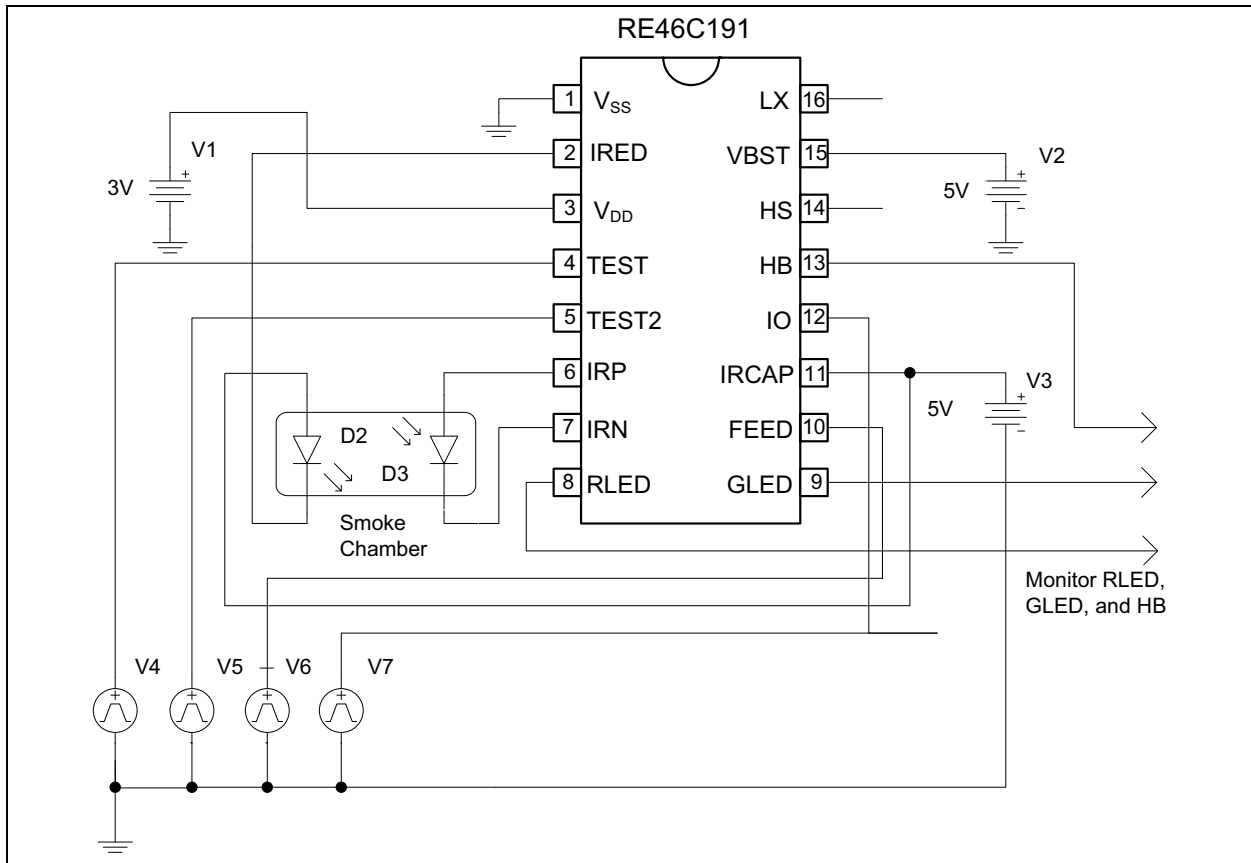
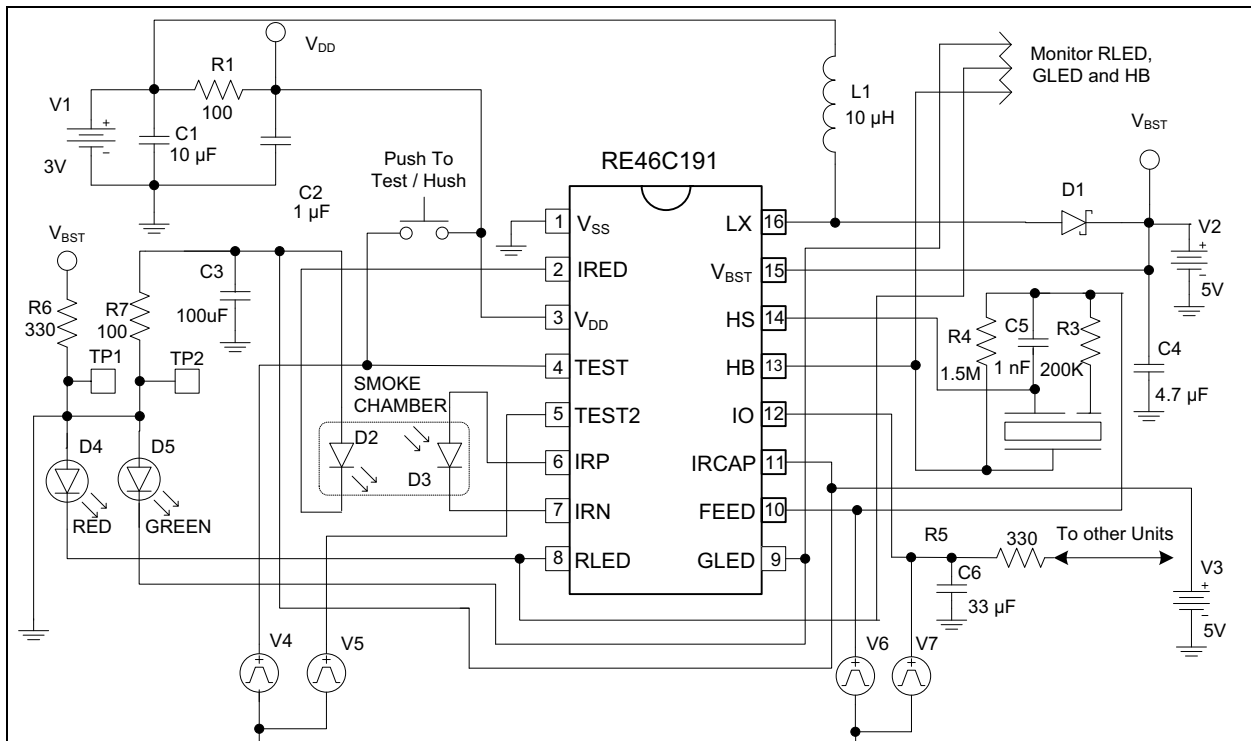

FIGURE 4-1: Nominal Application Circuit for Programming.
FIGURE 4-3: Circuit for Programming in the Typical Application.
When TEST2 is held at V_{DD} , TEST becomes a tri-state input with nominal input levels at V_{SS} , V_{DD} , and V_{BST} . A TEST clock occurs whenever the TEST input switches from V_{SS} to V_{BST} . The TEST Data column represents the state of TEST when used as a data input, which is either V_{SS} or V_{DD} . The TEST pin can therefore be used as a clock to change modes and a data input once a mode is set. Other pin functions are described in Section 4.2 "User Selections". V_{BST} is nominally 5V, and V_{DD} is nominally 3V as shown in Figure 4-1.
1. Power up with bias conditions as shown in Figure 4-1. At power-up, TEST = TEST2 = FEED = IO = V_{SS}.
As an alternative to Figure 4-1, Figure 4-3 can be used to program while in the application circuit. Note that, in addition to the five programming supplies, connections to V_{SS} are needed at TP1 and TP2.
1. Power up with the bias conditions shown in Figure 4-1.